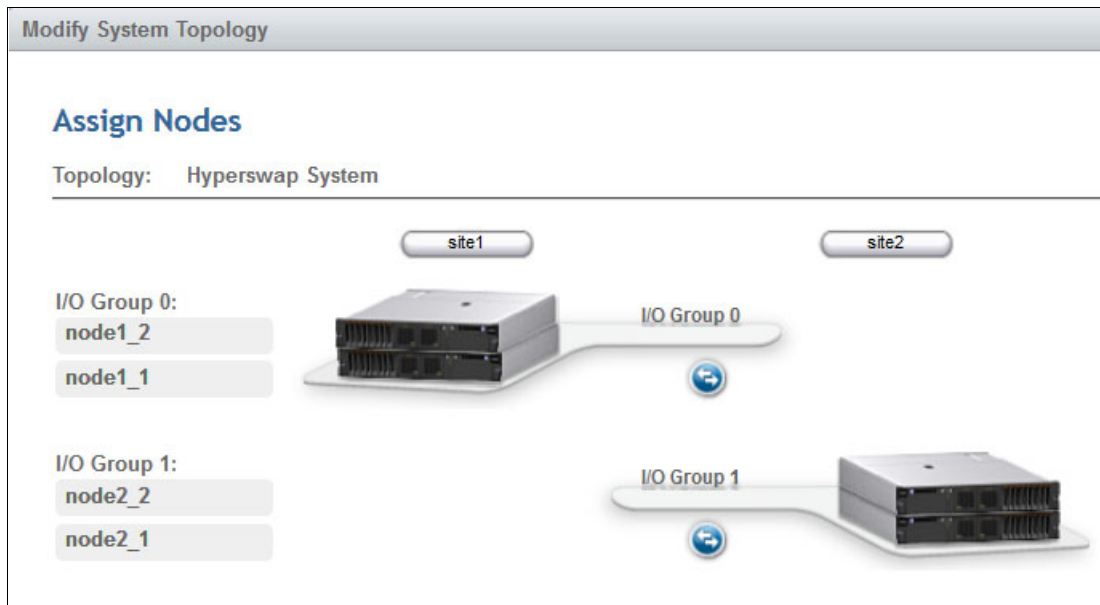

Figure 11-14 Assign control enclosures (nodes) to sites and I/O groups
3. In this example, the default site names are used. Assign the control enclosures to sites (Figure 11-14).